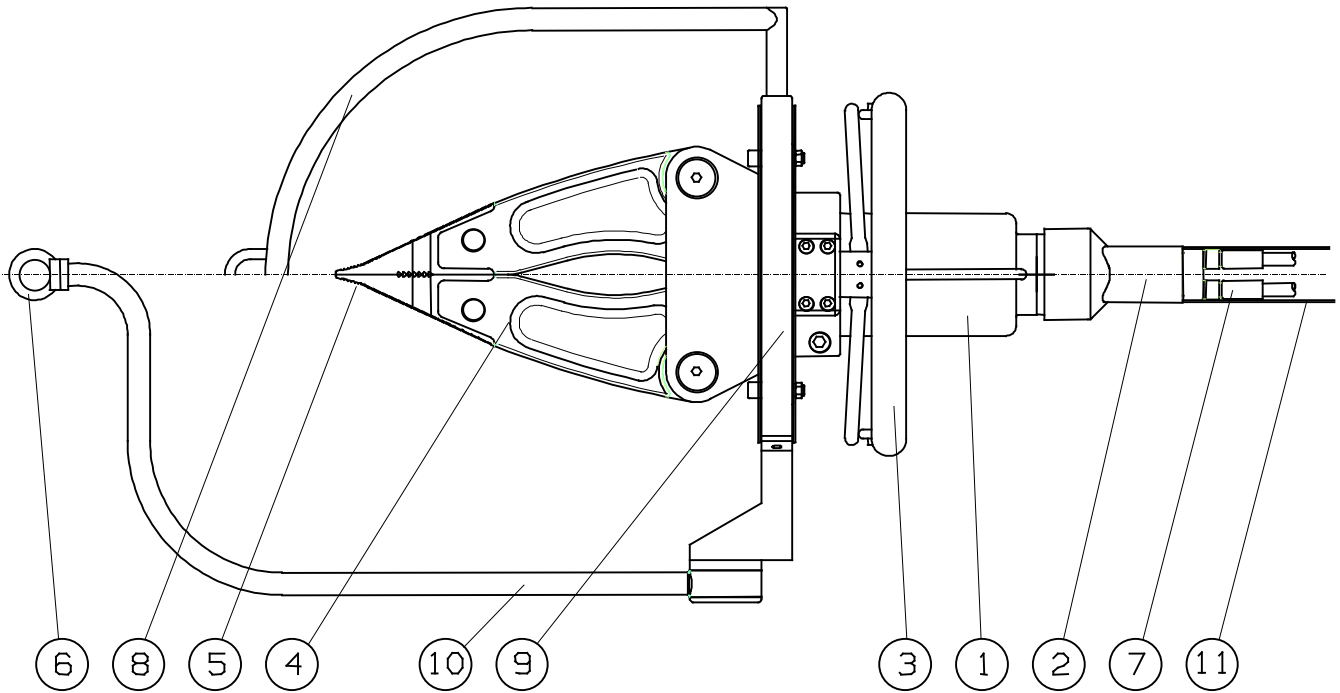

Figure 1
Refer to figure 1 page 1 for the description of the parts of the spreader.
3. Deadman's handle leaks oil on the backside.	A. Check position of hoses on the spreader §4.1. B. Check if couplers are correctly tightened Make sure that the P-port on the pump is connected to the P-port on the spreader If not change position of the 2 hoses on the spreader. See §4.1 et figure 1 for the correct position of the quick connect couplers. E. If oil is still leaking, replace the deadman's handle (see §4.1).